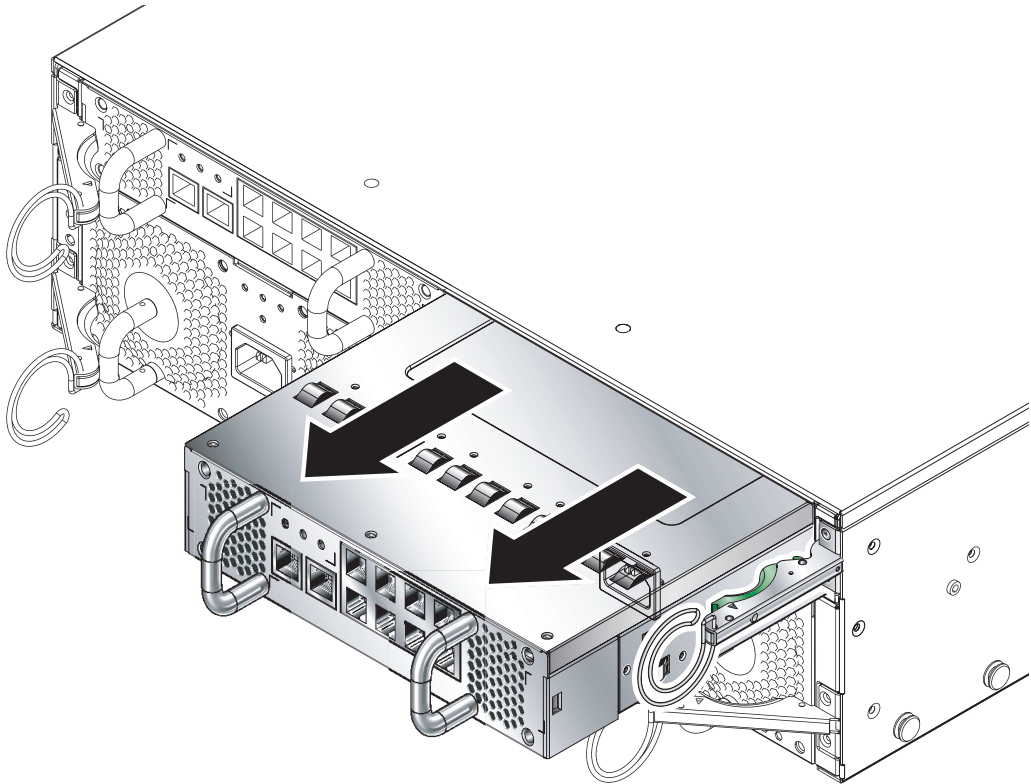

FIGURE 4-15 Removing the SSC From the System Chassis
3. Remove the SSC from the system chassis by pulling on the vertical handles attached to the back of the SSC (FIGURE 4-15).